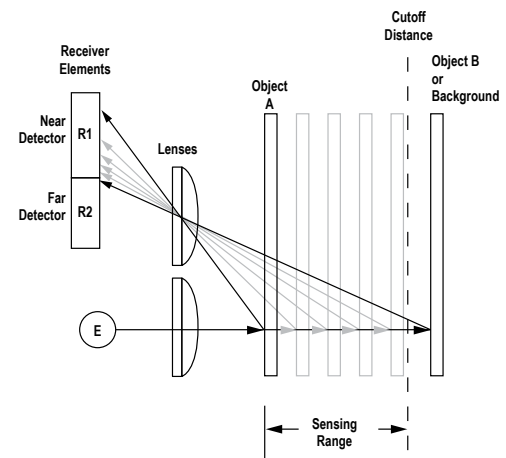

Figure 2. Adjustable field sensing concept
The sensor compares the reflections of its emitted light beam (E) from an object back to the sensor's two differently-aimed detectors R1 and R2 (see Figure 2 on page 2). If the near detector (R1) light signal is stronger than the far detector (R2) light signal (see object A, closer than the cutoff distance), the sensor responds to the object. If the far detector (R2) light signal is stronger than the near detector (R1) light signal (see object B, object beyond the cutoff distance), the sensor ignores the object.